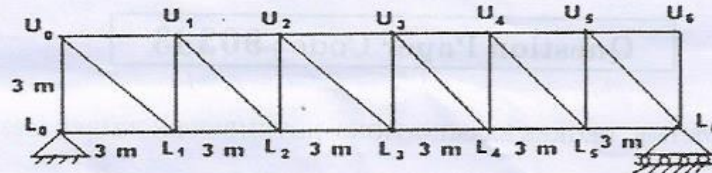

Fig. 1
- (b) Draw the ILD for the forces in members U_2L_2 and U_2L_3 of the truss shown in figure 1. (13)